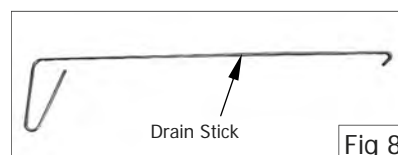

Fig 8
7. If necessary, use the drain stick (see Fig 8) to dislodge any blockages in the drain.